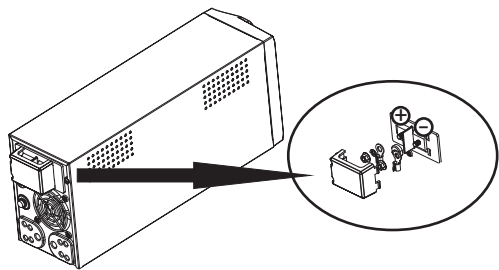

Fig.1 Battery cable connects to the terminal
Step 3- Tight the battery cables with the M5 nuts. Do NOT place anything between the flat part of battery terminal and the battery cable ring terminal, or overheating may occur. **(See Fig. 1)**